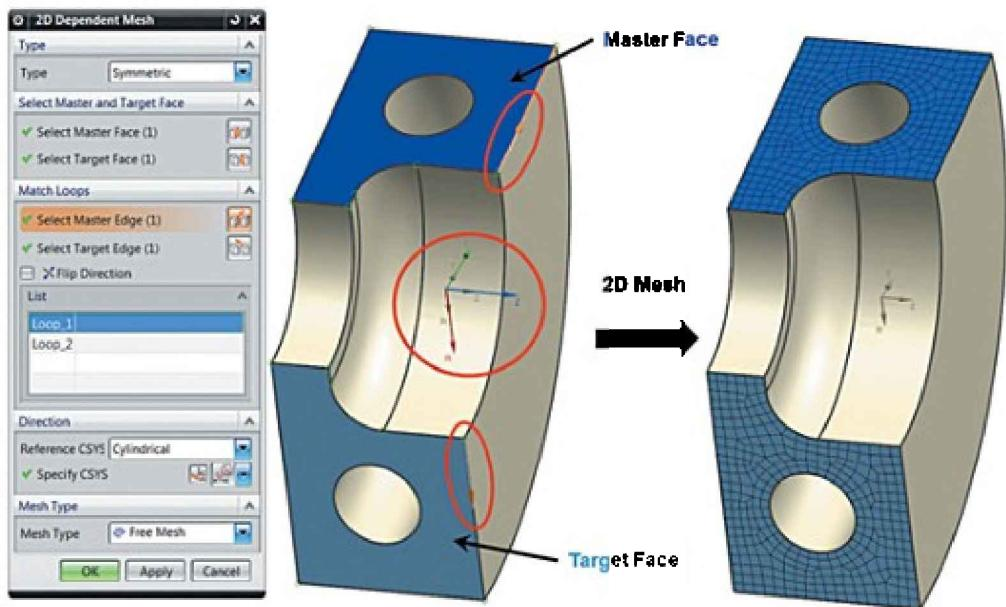

Figure 3.28. Creating a 2D dependent mesh
- **Symmetric:** identical meshes are created for completely identical faces. The nodes are created on the dependent face by translating these nodes from the source face relative to a defined coordinate system (Figure 3.28). This method is used to create identical meshes on matching faces of cyclically symmetrical models. The user can specify constraint equations on those faces which then can be used to set up cyclical symmetry boundary conditions.
You can create a 2D dependent mesh on specific faces in the **2D Dependent Mesh** dialog box by setting up the following options (Figure 3.28):